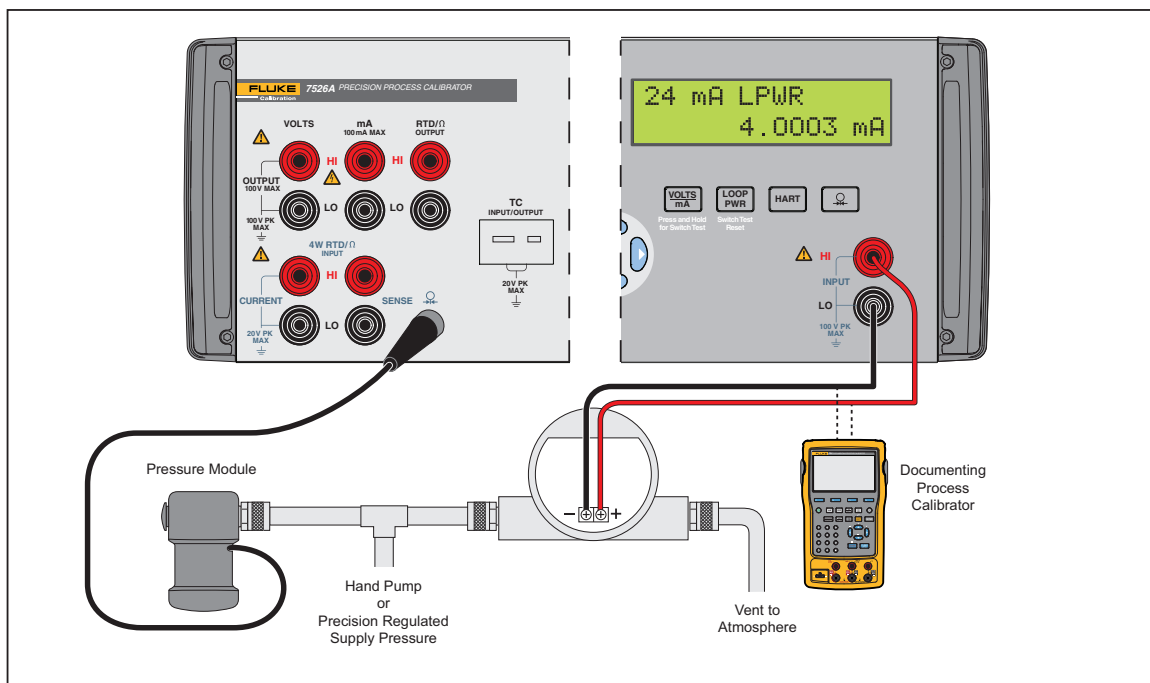

Figure 4-1. P/I Transmitter Application
4. Connect the transmitter as shown in Figure 4-1.